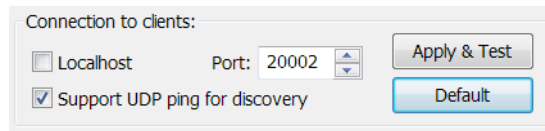

Figure B-53: Connection to Clients
1. Optional. In the **Connections to Clients** box (Figure B-53), make changes to the server settings if necessary.